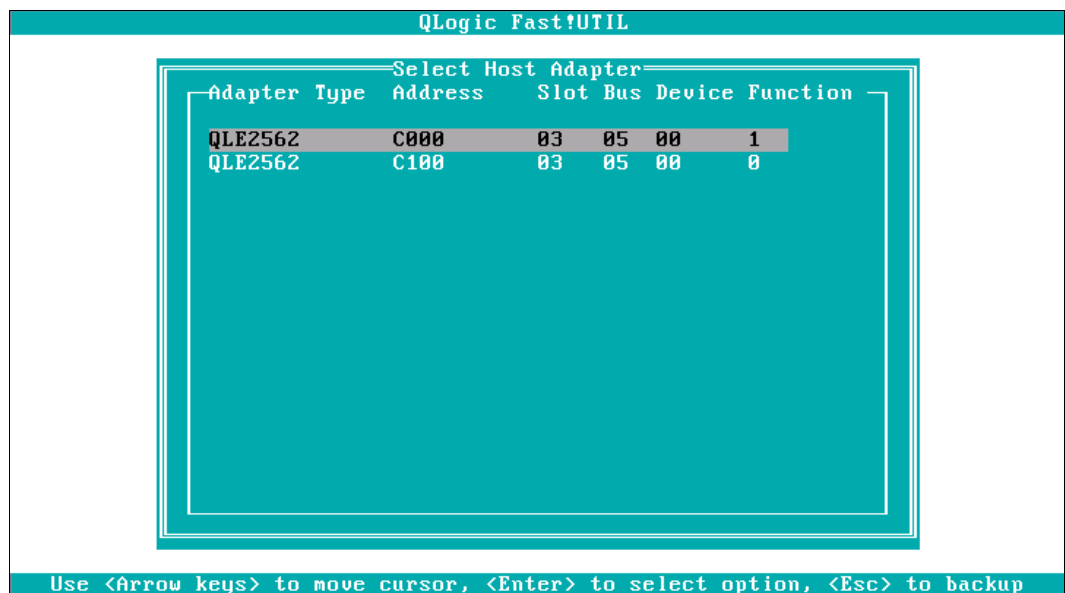

Figure 4-2 QLogic configuration panel: Select Host Adapter
1. Boot your server. During the boot process, press **CTRL-Q** when prompted to load the configuration utility and display the *Select Host Adapter* menu. See Figure 4-2